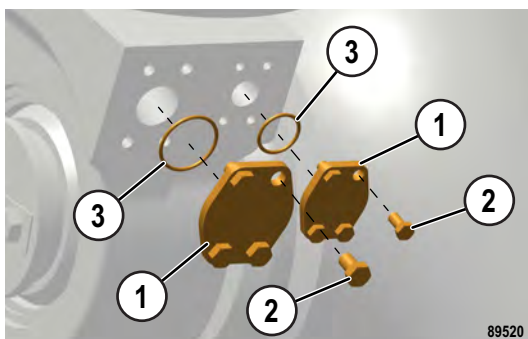

FIGURE 50-41. SHIPPING KIT INSTALLATION
6. Install shipping kit plates (1, Figure 50-41), cap screws (2) and O-rings (3) to cover the ports on the hydraulic cylinder.